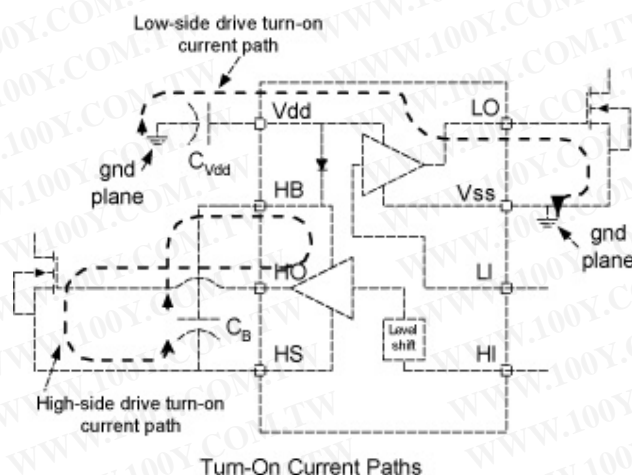

Figure 9
Figure 9 shows the critical current paths when the driver outputs go high and turn on the external MOSFETs. It also helps demonstrate the need for a low impedance ground plane. Charge needed to turn-on the MOSFET gates comes from the decoupling capacitors C_{VDD} and C_B . Current in the low-side gate driver flows from C_{VDD} through the internal driver, into the MOSFET gate and out the Source. The return connection back to the decoupling capacitor is made through the ground plane. Any inductance or resistance in the ground return path causes
3. Trace out the high di/dt and dv/dt paths, as shown in Figures 9 and 10 minimize etch length and loop area for these connections. Minimizing these parameters decreases the parasitic inductance and the radiated EMI generated by fast rise and fall times.